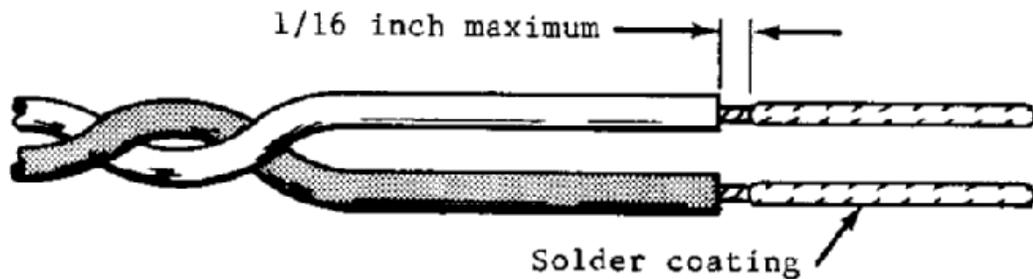

Figure 5-3. Pretinning Wires
4. Pretin stranded wire and unplated solid wire (Figure 5-3).